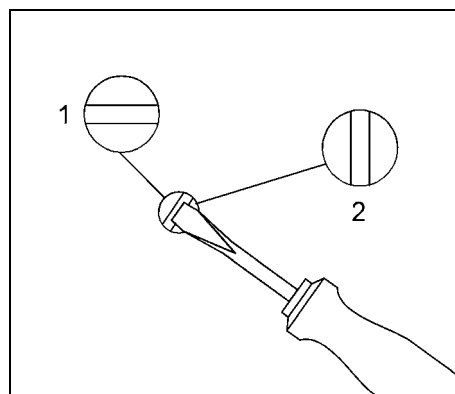

Fig. 69
- Open the operating water valve using the manual override (see Fig. 69).